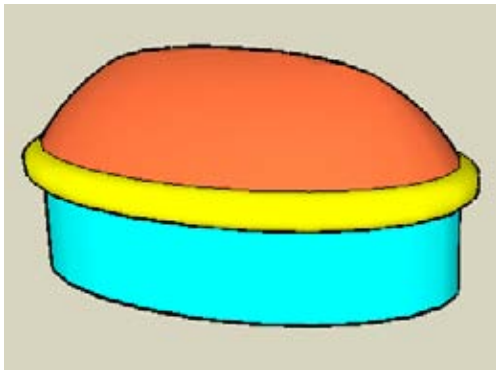

Figure 4-13
8. Select everything and use Intersect→Intersect with Model to get edges where the lid intersects itself. Then you can erase all faces above the lid and any extra edges on the lid to get the final dish (Figure 4-13).